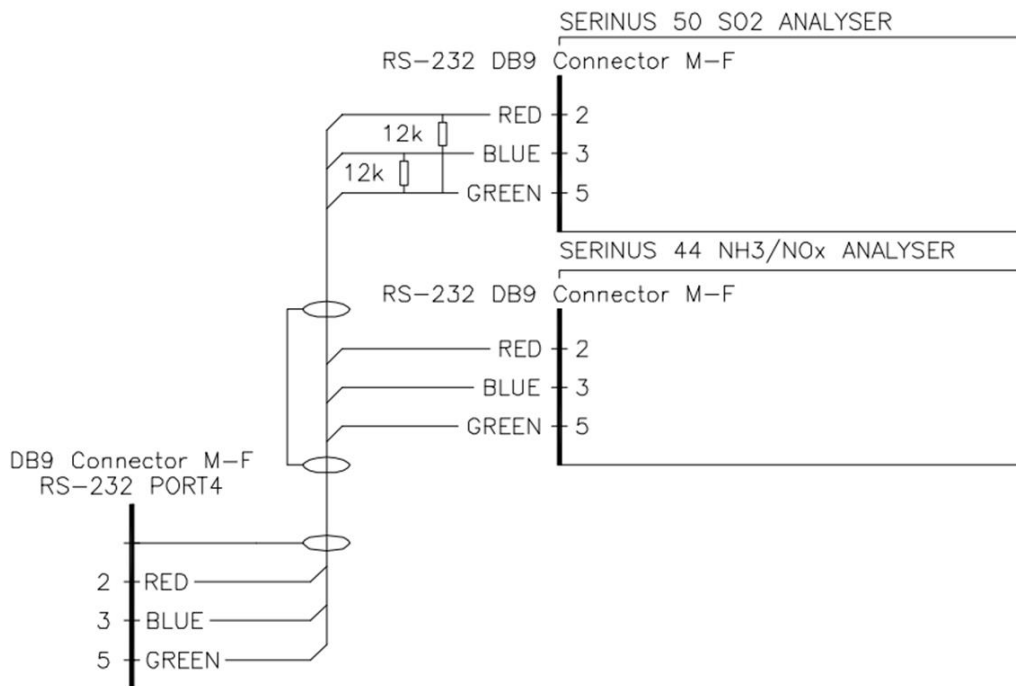

Figure 77 – Multidrop RS232 Cable Example
- A 12K ohm terminating resistor should be placed on the last connector of the cable (connect from pin 2 to pin 5 and from pin 3 to pin 5 - refer to Figure 77).